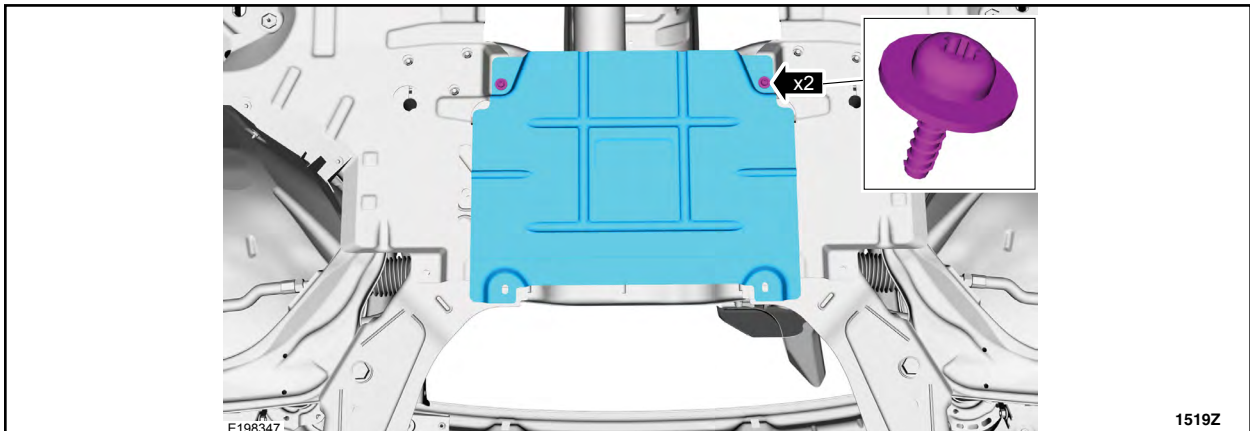

FIGURE 4
2. If equipped, remove the center underbody shield. See Figure 4.
2. If equipped, install the center underbody shield. See Figure 4.